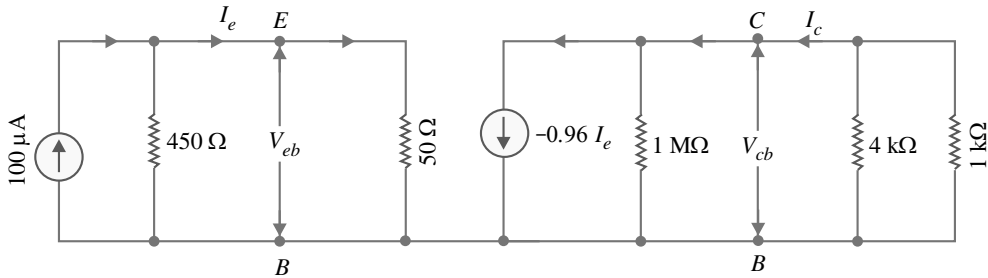

Fig. 22.18
**Solution.** Fig. 22.18 shows the a.c. equivalent circuit of the transistor amplifier where the transistor has been replaced by its simplified hybrid equivalent circuit.
Referring to the a.c. equivalent circuit in Fig. 22.18, current of  $100 \mu\text{A}$  divides between  $450 \Omega$  and  $50 \Omega$  resistances. By current-divider rule, the a.c. emitter current  $I_e$  is given by ;